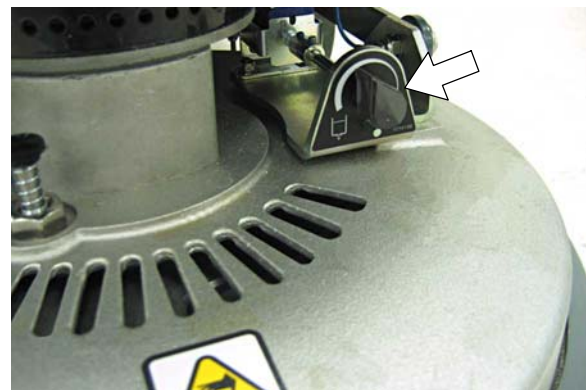

FIG. 20
5. Turn the solution flow control knob to a desired flow rate (Figure 20).